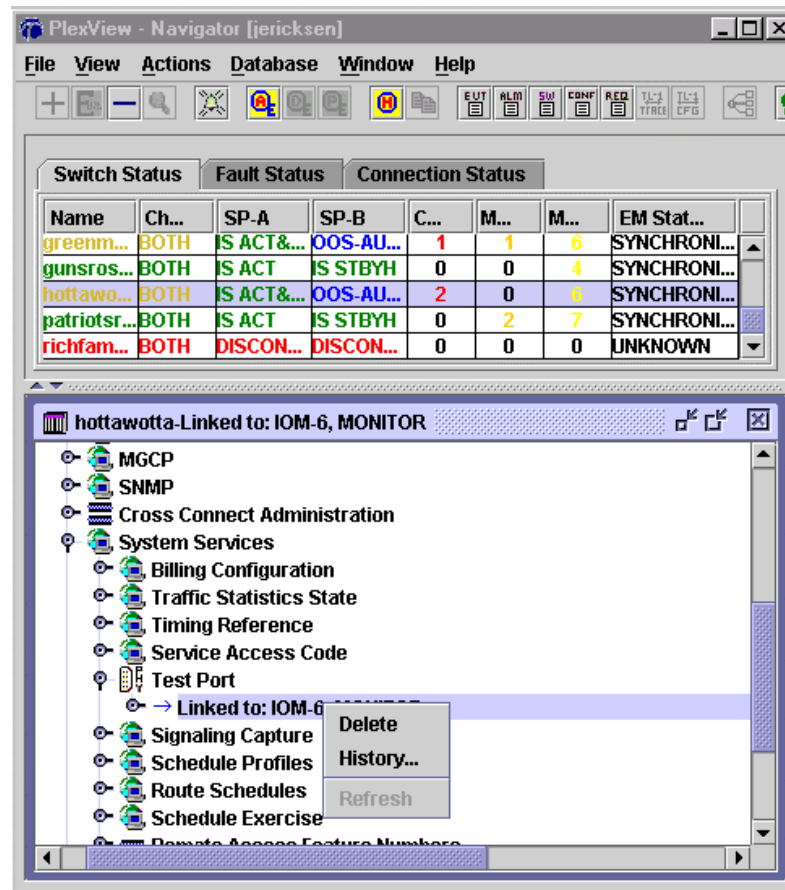

Figure 2. Test Port Link
5. Click on *Test Port*. See Figure 2. Is the “Linked to” information correct?